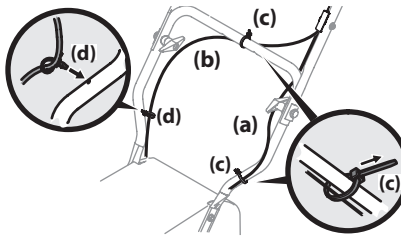

Figure 2-11
**NOTE:** The auger cable (a) routes down the left lower handle and the drive cable (b) is routed across the top of the lower handle and down the right side of the lower handle. See Figure 2-11.
5. Two cable ties (c) have been used to loosely tie the control cables to the lower handle, including the cable tie (c) you relocated in step 3. A push clip (d) is also included on the lower drive cable (b). Position cable ties (c) now, as in Figure 2-11, and tighten to secure cables (a & b) to the lower handle. Trim off excess material of cable ties (c). If not already installed, push the clip (d) on the drive cable (b) into the hole in the handle provided as shown in the left inset.